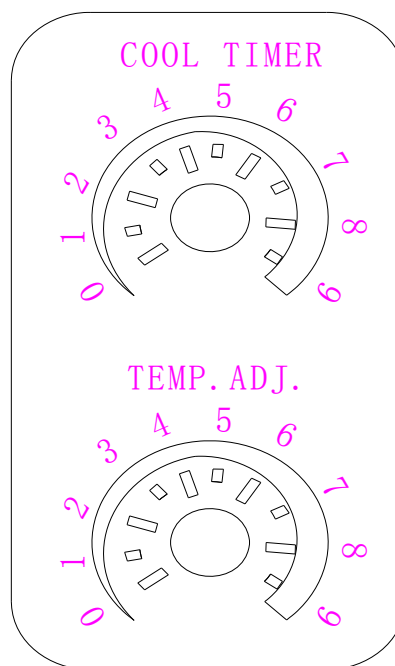

FIG 3-5
① Temperature adjustment: In the control cabinet of the machine and above the circuit board, open the cover plate of the control cabinet and you will see a potentiometer. Turn it in the clockwise direction and the temperature will increase. If the temperature is higher or lower than it should be, the adhesion level will not be as good as it should be. Therefore do not adjust too much as the difference in temperature will be too much. Adjust to between 4 and 5 and it will be fine (show as FIG3-5).
② Cooling time adjustment (COOL TIMER): In general, the temperature of the heater is sufficient, but because of different strap types, materials, and other factors, sometimes if you adjust the temperature it may not reach the perfect melting point. In such an instance, the adjuster can be adjusted (extended) two lead bonding (cooling) for a longer time, as the longer the cooling time, the adhesive strength is further strengthened. Clockwise cooling time is longer, and the adjustment is made in 0 seconds. (Refer to FIG 3-5).
③ To tighten the adjustment there is a potentiometer button marked “TENSION”. Turn it in the clockwise direction to tighten. If the strap does not tighten you need to adjust the pendulum block and increase the power.